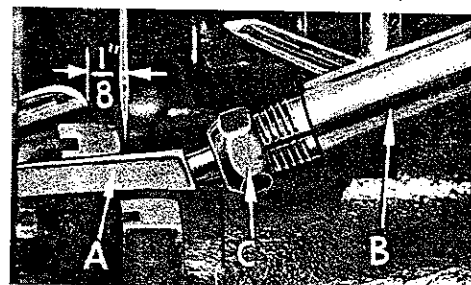
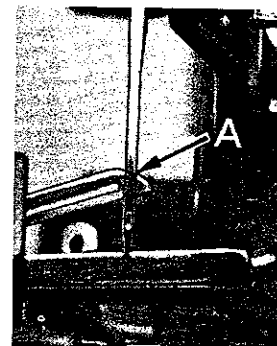

Fig. 5
Fig. 7
At this point, insert lower looper (A, Fig. 5) into bar (B). With lower looper at left end of its stroke, set looper point $1/8$ inch from center of needle (Fig. 5), using looper gauge No. 21225- $1/8$, on Styles 39500 FS, FT, FU, GT and JP. On Styles 39500 GD and GL, with lower looper at left end of its stroke, set looper point $1/16$ inch from center of left needle, using looper gauge No. 21225- $1/16$. Now assemble differential (front) feed dog.
Now finish lower looper adjustment. As lower looper moves to the right, its point should be set into the needle scarf (A, Fig. 7) until the needle springs forward from rear guard surface another .002-.004 inch. Tighten nut (C, Fig. 5) securely.